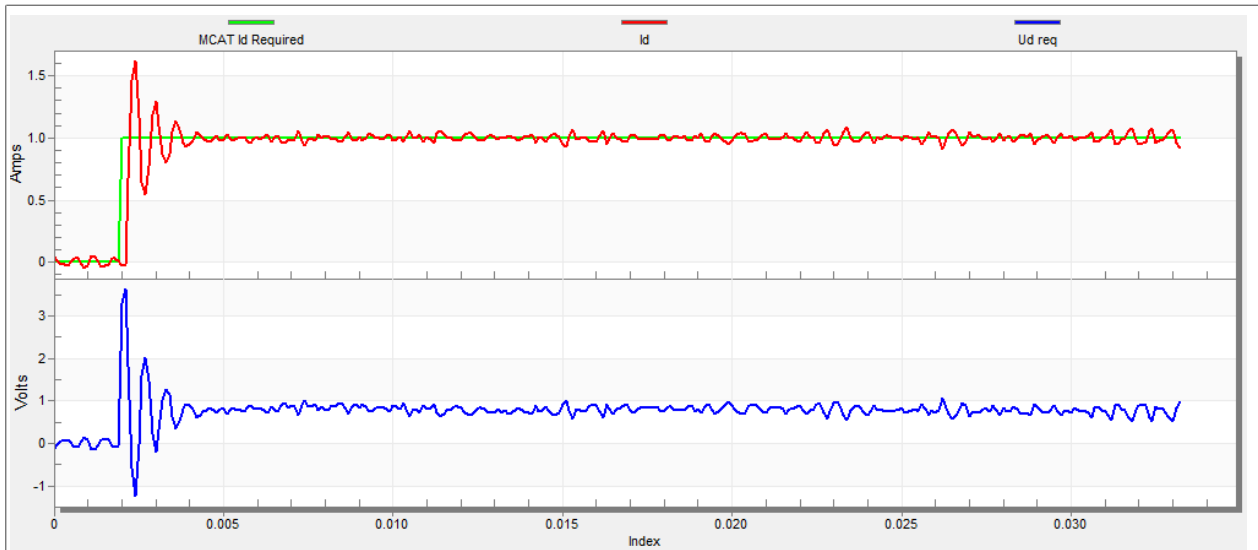

Figure 21. Fast step response of the Id current controller
- The loop bandwidth is high (700 Hz) and the response time of the Id current is very fast, but with oscillation and overshoot (see Figure 21).